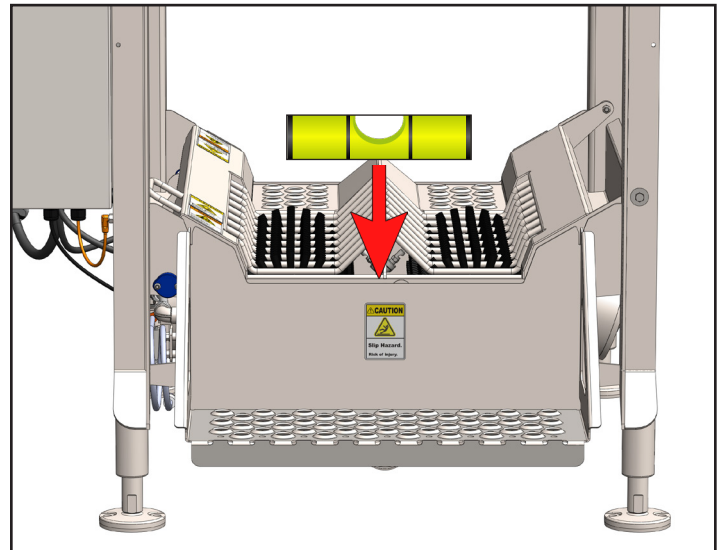

Fig. 26.1: Level and stabilize unit using level
3. Use a level to make sure the unit is stable and leveled at each end of the tub [Figure 26.1].